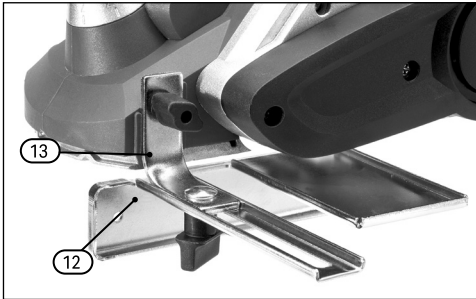

Fig. 5
- Use the V-shaped grooves (A) running down the front sole of the shoe plate for 45° angled bevelling of edges.
7.4 Planing with the Guide Bar (Fig.5)